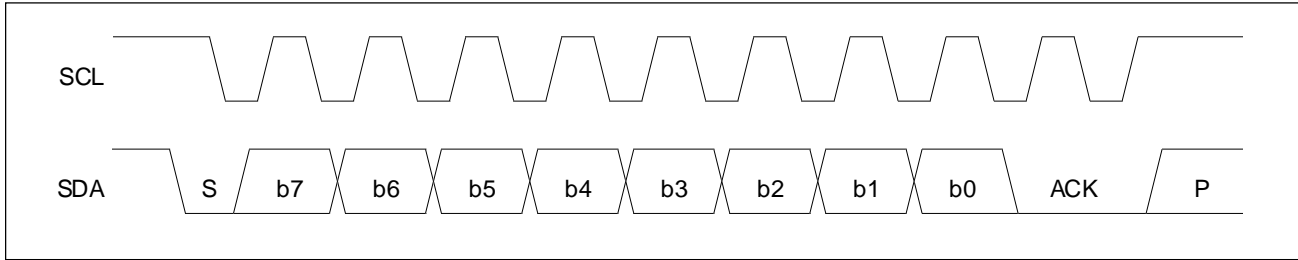

Figure 1. Control Interface Timing
When the MODE pin (pin 46) is set low the FLI2200 operates as a slave device, responding to commands from a master controlling the bus. The protocol is generally I2C compatible. Between operations the master sets the bus into the idle state, during which the master releases both the clock (SCL) and data (SDA) lines so that they both go high. All operations commence with a **START (S)** command from the master; this is indicated by the master setting the SDA line low while the clock is in the high state, as shown in Fig. 1. The clock then goes low and an operation begins. All write operations consist of 8-bit (byte) transfers either from or to the master, after which the receiving slave responds with an **Acknowledge (A)** by setting the SDA line low for one clock cycle. In the read operation process is similar but the receiver (the master in this case) omits the acknowledge after the data byte is read from the FLI2200. During the course of all operations the SDA line will only change while the SCL line is low, and should remain stable while SCL is high. The master indicates the end of an operation or set of operations with a **STOP (P)** command, indicated a rising edge on SDA while SCL is high. Sets of multiple operations can be executed by means of further **START** commands at the end of each operation with or without a **STOP**.